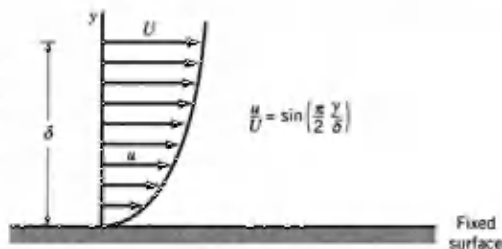

FIGURE P1.9R
1.9R (Viscosity) A Newtonian fluid having a specific gravity of 0.92 and a kinematic viscosity of  $4 \times 10^{-4} \text{ m}^2/\text{s}$  flows past a fixed surface. The velocity profile near the surface is shown in Fig. P1.9R. Determine the magnitude and direction of the shearing stress developed on the plate. Express your answer in terms of  $U$  and  $\delta$ , with  $U$  and  $\delta$  expressed in units of meters per second and meters, respectively.